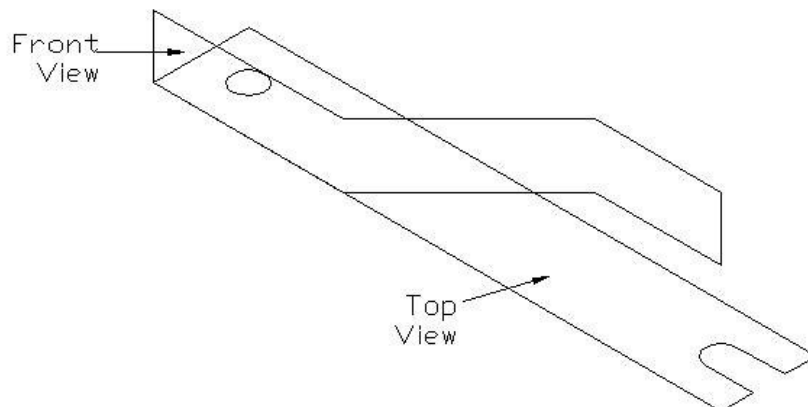

Figure 3-7
3. Click  (Extrude). Extrude the top view, as shown in Figure 3-7, to a height of **3**.